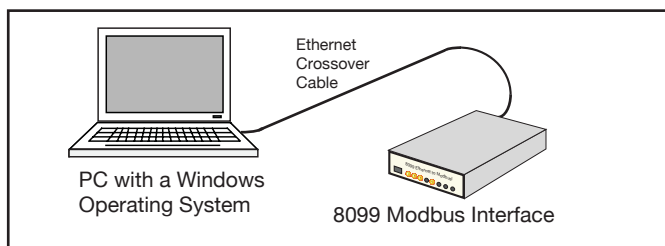

Figure 2-4 8099 Connected to computer with a Crossover Cable
1. Use the Crossover Cable to connect the 8099 directly to the computer running the browser as shown in Figure 2-4.